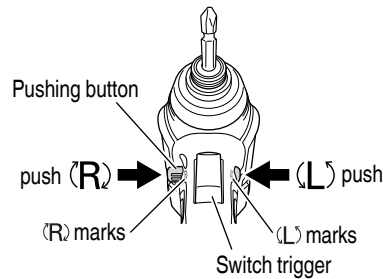

Fig. 8
The L-side of the pushing button is pushed to turn the bit counterclockwise (See Fig. 8). (The (L) and (R) marks are provided on the body.)